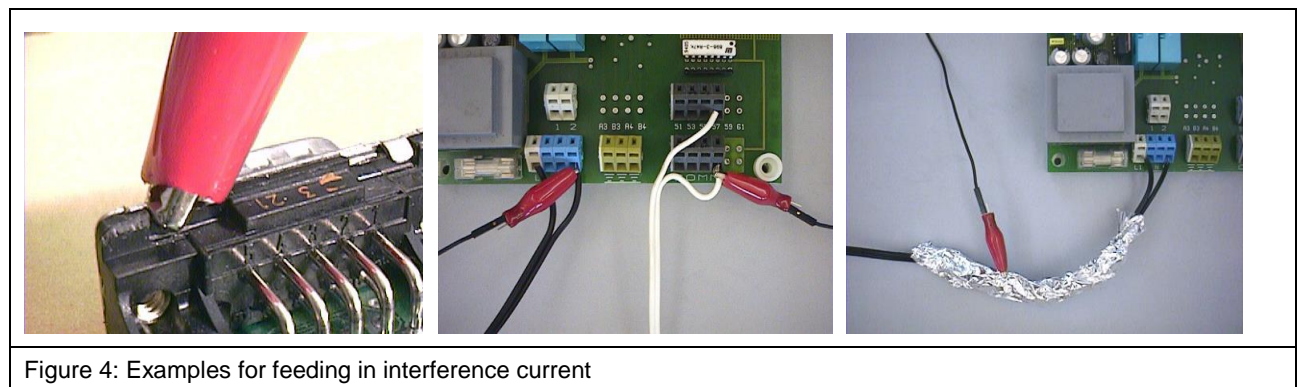

Figure 4: Examples for feeding in interference current
- First of all you should try to reproduce the natural path of the interference current through the DUT. For this purpose, a galvanic coupling is made e.g. into the shield or the shield connection of a connected cable (**Figure 4** - left). The interference current flows through the DUT and is returned e.g. from the DUT housing back to the PT4.
- Instead of the cable shielding, it is also possible to feed directly into individual wires of a cable (**Figure 4** - middle).
- Alternatively, a shield can be simulated by a piece of aluminum foil (**Figure 4** - right).